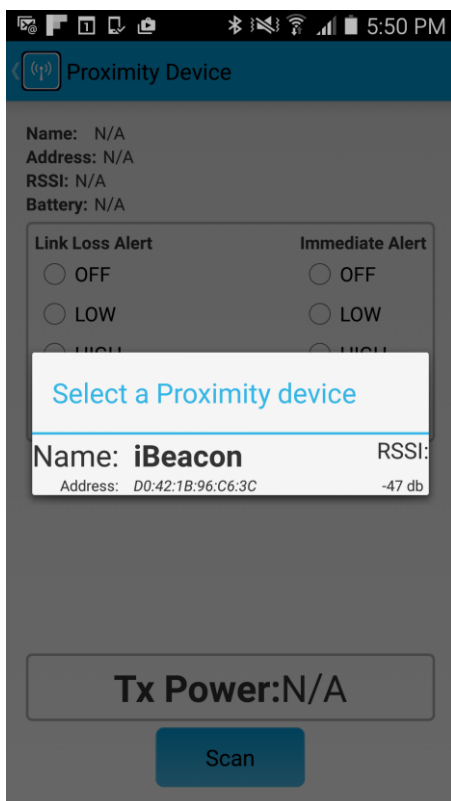

Figure 16: BL600 beacon
- Using the Laird ToolKit Proximity app (for example, just to pick up the advert) on Android, search for the beacon. If successful, the BL600 beacon displays as shown in Figure 16.